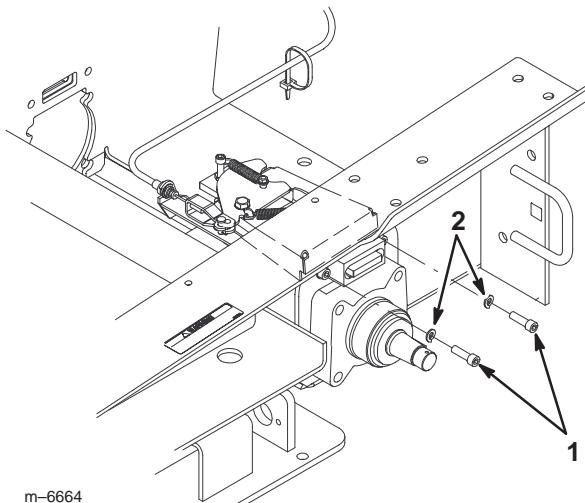

Figure 11
2. Secure the brake assembly using the hex socket head screws and lock washers included with the kit (Fig. 11).